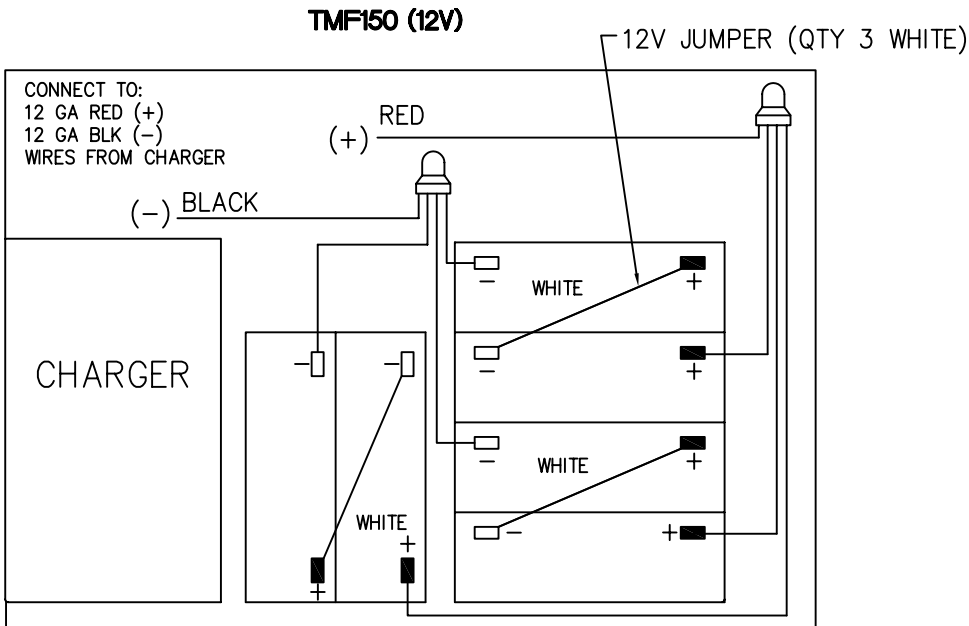

FIGURE 2
11. Position battery or batteries in cabinet as shown in figure 2 or 3.
12. Connect battery leads as shown in figure 2 or 3.